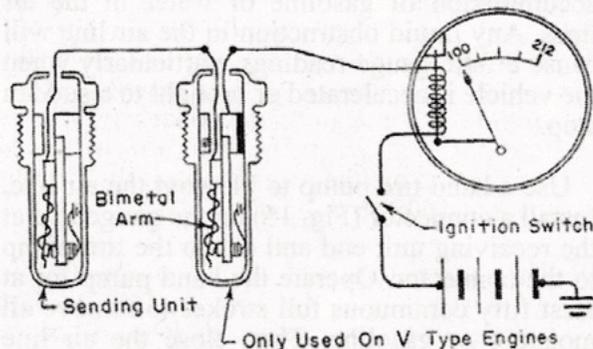

Fig. 17. Typical Temperature Gauge Circuit with Two Sending Units
a. Electrical Temperature Gauge Having Two Sending Units Fails to Operate. This type of gauge should read in the "hot" position when the ignition switch is turned off, regardless of the temperature of the engine. When the ignition switch is turned on, the pointer of the instrument should move toward the "cold" position and register the temperature of the engine. If the gauge does not operate in this manner, there is a short or open circuit in the wiring (Fig. 17), or the sending units or the instrument itself is at fault.